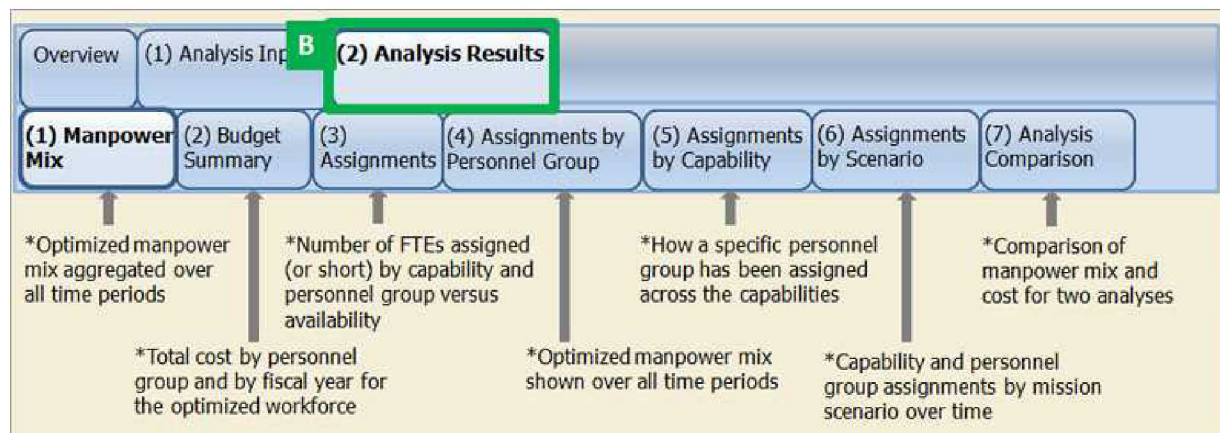

Figure 28. Overview of Normal (Deterministic) Analysis Results pages.
Analysis Results – The Analysis Results page contains all of the graph results (see Figure 28). These results can only be viewed when the analysis is solved. Otherwise, this page appears blank. The graphs are described later in this section.
- (2) Go to the *Analysis Results* tab (step B in Figure 28) to view the graph results for the analysis.